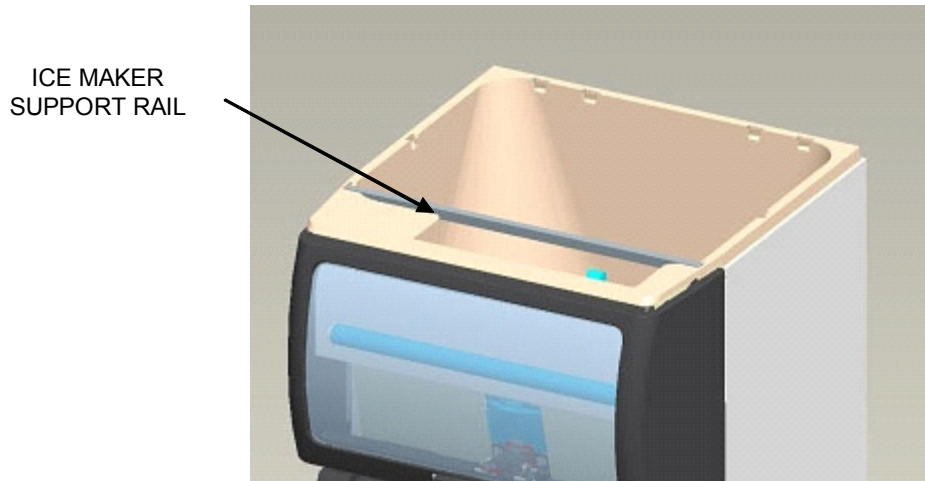

FIGURE 2
2. Place ice maker support rail into the front set of pockets in the ice bin as shown in Figure 2.